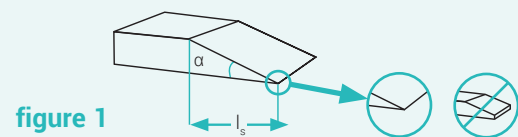

figure 1
- Skive cut at the beginning: Unwind around 0.5 m of the sealing tape and cut the end with a sharp knife by using the skive cut technique → length of the skive cut (l_s) = approx. 25 mm, angle $\alpha < 15^\circ$ (figure 1)